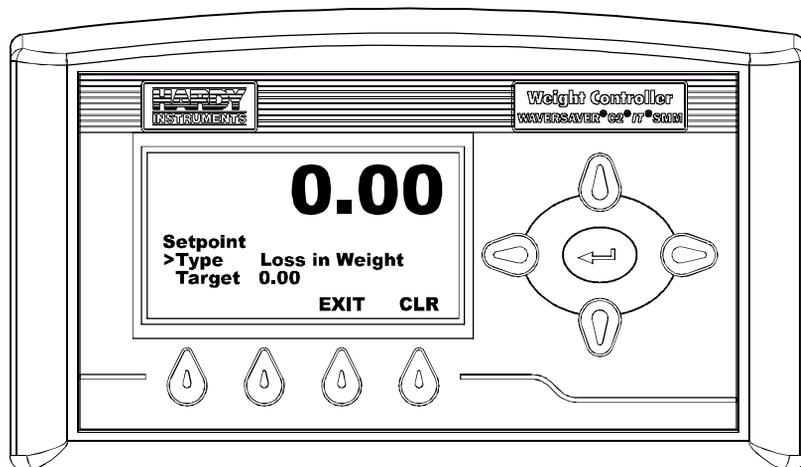

FIG. 57 SET POINT MENU/SELECTING LOSS IN WEIGHT
Step 8. Press the Down Arrow button until the cursor is in front of “Type”. (See Fig. 57)